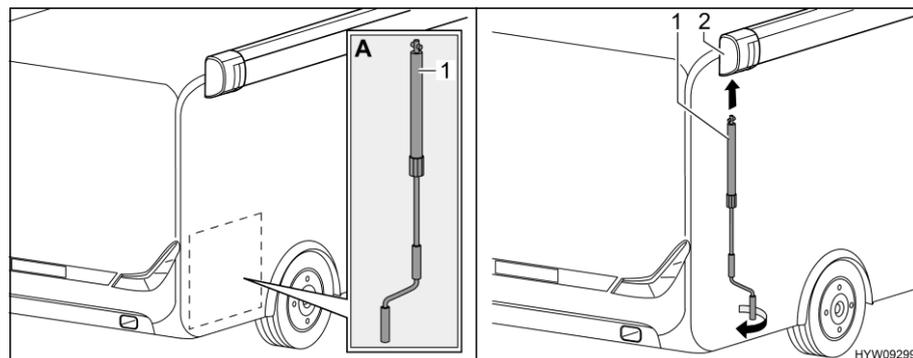

Fig. 29 Installing crank
- Take crank (Fig. 29,1) out of the rear garage (Fig. 29,A).
- Insert crank into bayonet socket (Fig. 29,2) of the awning.